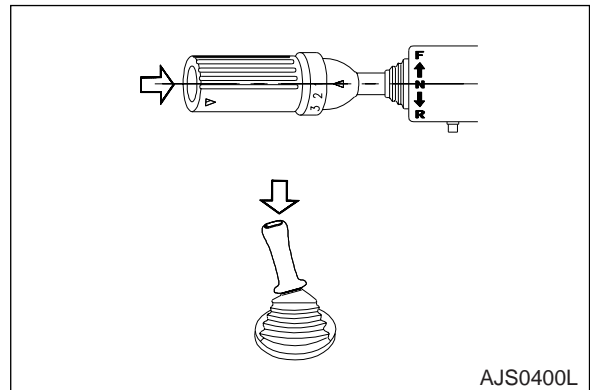
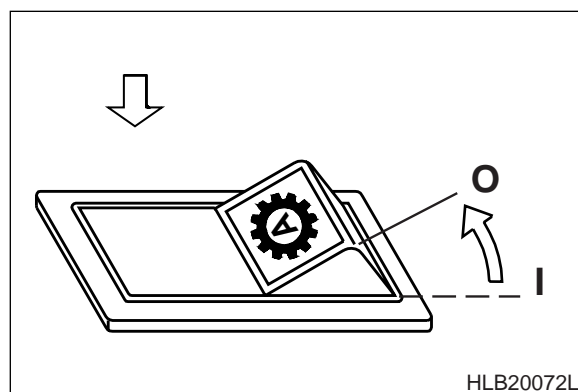

Figure 30
Figure 32
1. There are two downshift switches down Figure 30, and it is possible for operators to select one of them according to the condition.
With the auto selector switch (Figure 32) is in the "O" (MANUAL) and the forward second gear is selected, if either downshift switch (Figure 30) is activated, a pulse is sent to the "22" transmission controller. This signal energizes solenoid valves, (Y3 and Y5), which shifts the transmission to the forward first gear. When either switch (Figure 30) is selected a second time, the transmission pulse signal of the "22" terminal is interrupted and solenoid valve, Y5 and Y6, are energized and the transmission returns to the forward second gear.
If either downshift switch (Figure 30) is activated, a pulse signal is sent to the "22" terminal of transmission controller. This signal shifts the transmission to the next lowest gear.
When either downshift (Figure 30) is depressed a second time, the transmission pulse signal of the "22" is interrupted and the transmission returns to normal operation.